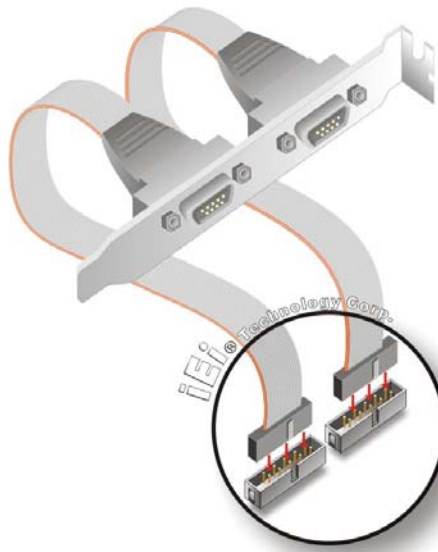

Figure 5-17: Dual RS-232 Cable Installation
Step 2: Insert the cable connectors. Insert one connector into each serial port box headers. See **Figure 5-17**. A key on the front of the cable connectors ensures the connector can only be installed in one direction.